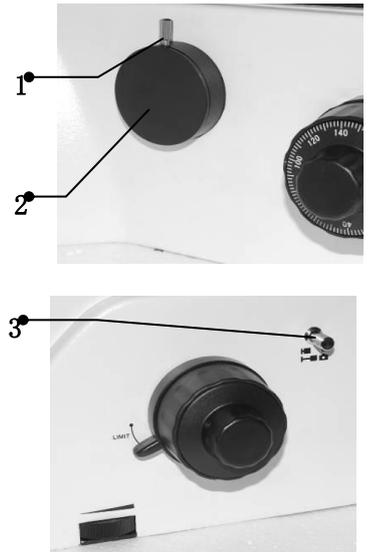

Figure 15
1. Unscrew screw 1 on the camera interface, take out the cover 2, see figure 15.